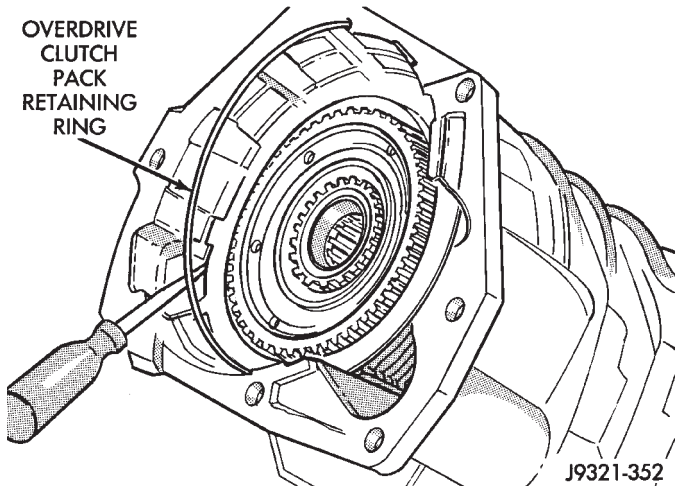

Fig. 247 Overdrive Clutch Pack Retaining Ring Installation
- (5) Install first clutch disc followed by first clutch plate. Then install remaining clutch discs and plates in same order.
- (6) Install clutch pack pressure plate.
- (7) Install clutch pack wire-type retaining ring (Fig. 247).